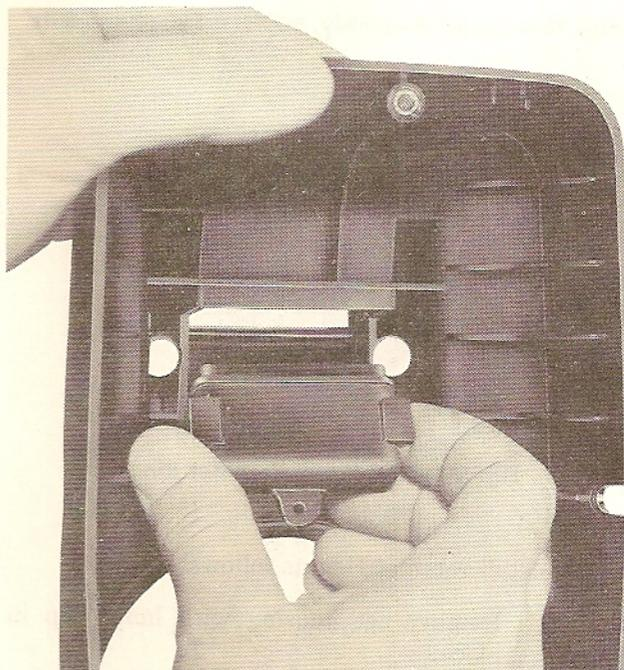

Fig. 23 — Removing Handhold Cover
- Accessible when handhold cover is removed (Fig. 23).